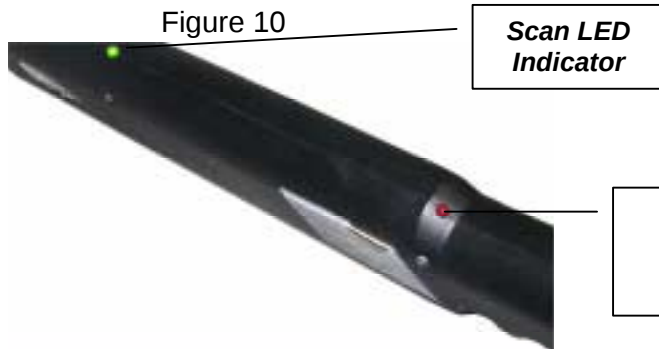

Figure 10
- A second way to confirm proper operation is the Scan LED Indicator located on the back of the Tag Tracker itself. This light will flicker yellow when the Tag Tracker has properly scanned. [See figure 10]